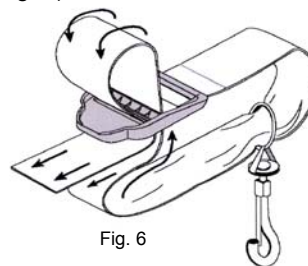

Fig. 6
2. Pull the strap over the cross bar and down through the slot in the buckle. (Fig. 6)